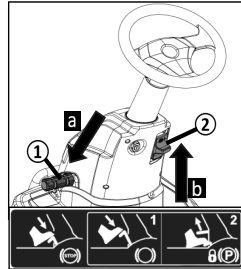

Figure 20
- 1) Keep the pedal pressed (Figure 20, ①),
- 2) Lift the parking brake lever and keep lifted (Figure 20, ②)